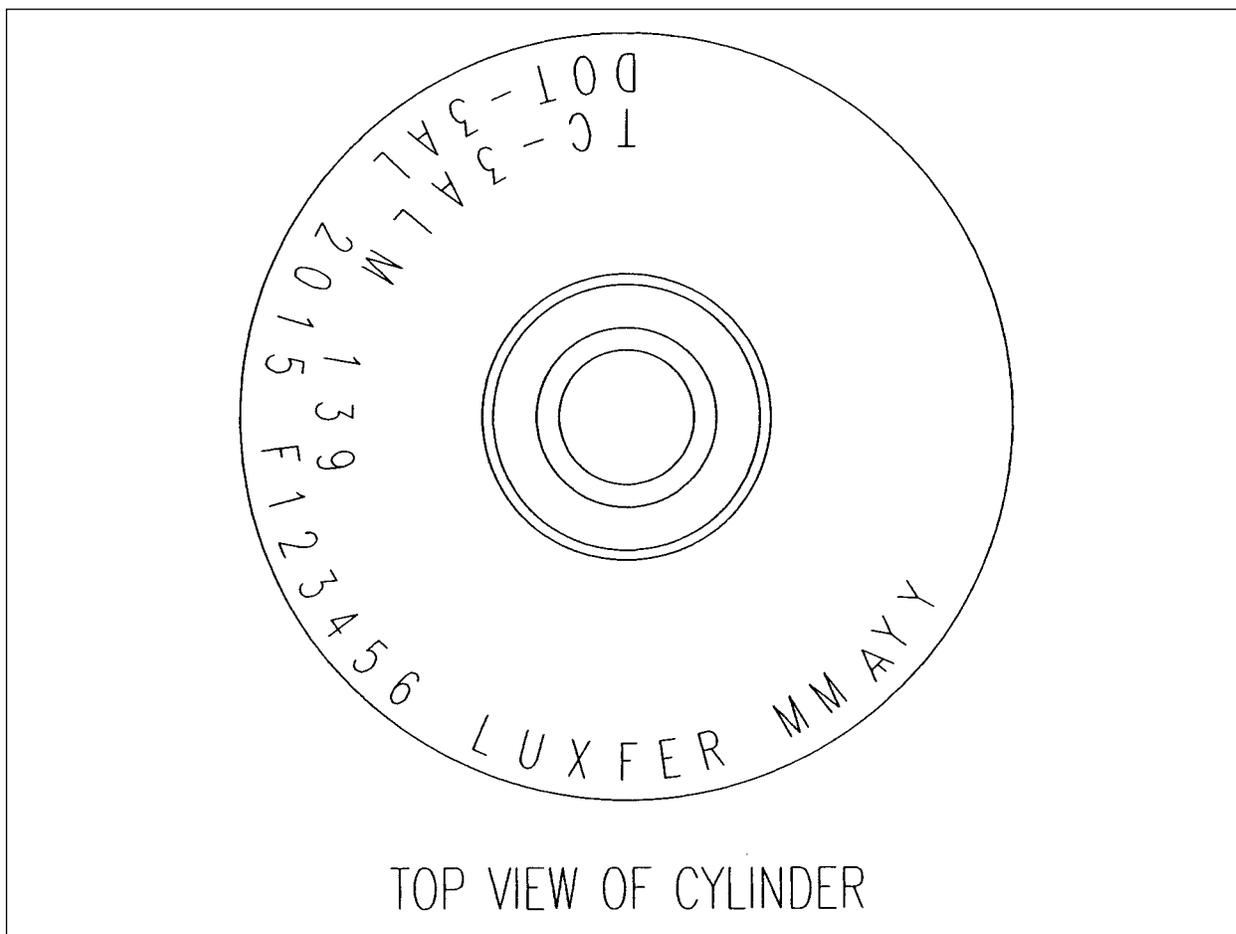

FIGURE 1.
**government specification:** A government's requirements for a cylinder which is usually included in the cylinder marking or on a cylinder label. Each country may have their own specification, or, they may accept the U.S.A. DOT specification. Within the U.S.A. the government specification of an aluminum scuba cylinder may be "DOT-3AL" for example, or "DOT-E6498." See FIGURES 1 - 4 for U.S.A. examples.
**markings:** The words, letters, numbers and symbols stamped into the aluminum cylinder. Manufacturing markings include cylinder information (date manufactured, date first hydro tested, cylinder type, service pressure [in psig or bar or both, serial number, etc.]). Other markings include the hydrostatic retest date(s) and markings authorized to be added by the DOT. See FIGURES 1 - 4.
**stamped markings:** See **markings**. For examples of Luxfer stamped markings used over the years, see FIGURES 1 - 4.